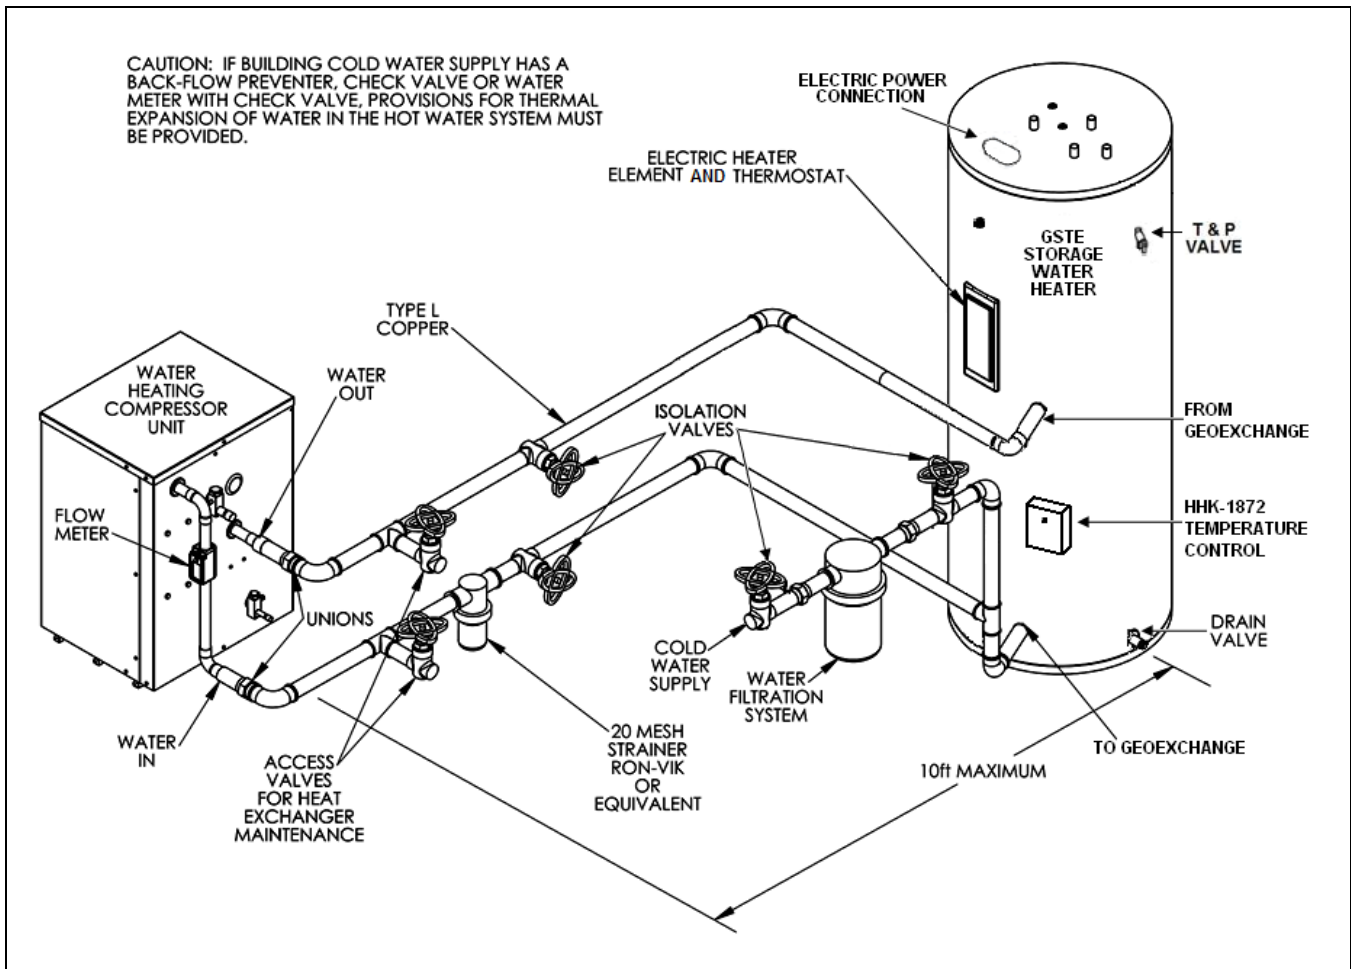
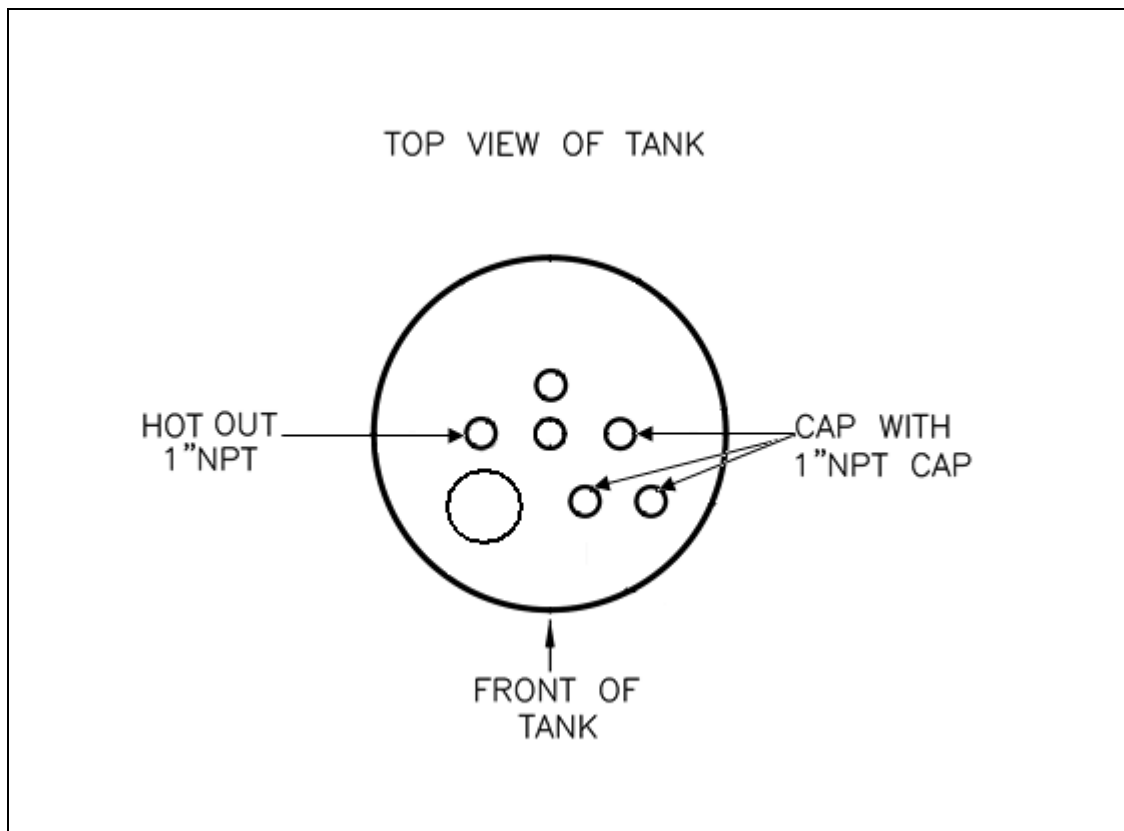
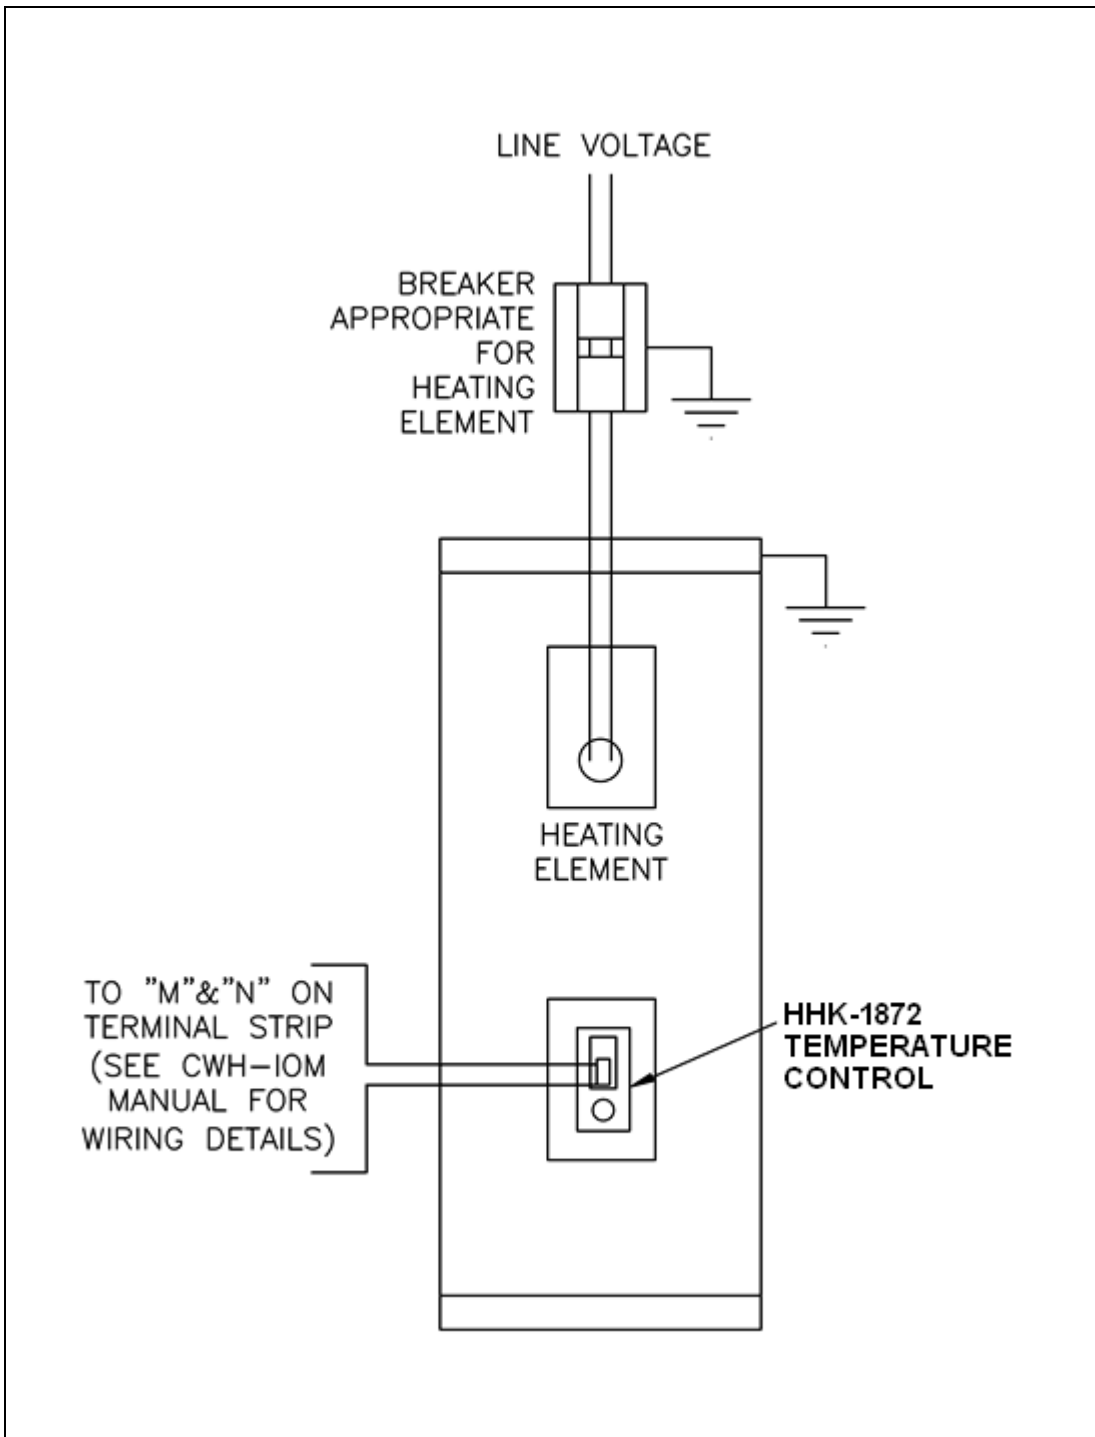

Figure 2a. Commercial Water Heating Application
Figure 2b. Top of Tank Connections – CWH
Figure 2c. Electrical Field Wiring – CWH
- Figure 2a. Commercial Water Heating Application 6
- Figure 2b. Top of Tank Connections – CWH 7
Figure 2a illustrates a typical installation of a GSTE storage water heater with a commercial water heating compressor unit. Location of the tank from the compressor unit is to be no more than 10 ft. apart. Water piping and connections between the compressor unit and tank are all 1-1/2" Type L copper. Hot water supply to the system is out the top of the tank as shown. Details for the ports and connections on top of the tank are shown in Figure 2b. The electrical field wiring for the HHK-1872 temperature controller and the storage water heater electric element and thermostat are illustrated in Figure 2c.